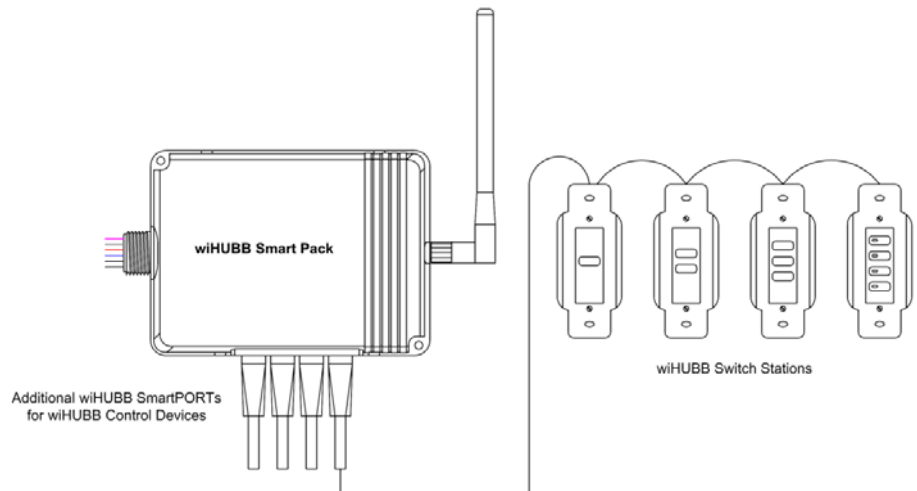

Figure 2: wiHUBB Switches connected to wiHUBB Smart Pack SmartPORT
3. Plug the Blue SmartPORT cable into any available SmartPORT on the wiHUBB Smart Pack (See Figure 2). Verify solid snap-in connection.